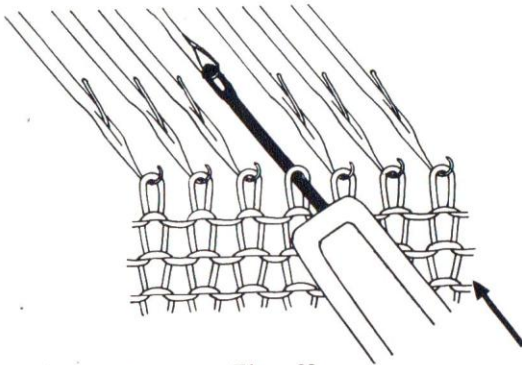

Fig. 23
- (2) Without releasing the transfer tool from the hook of the needles, push the needle all the way back until the stitch is transferred onto the transfer tool. (See Fig. 23)